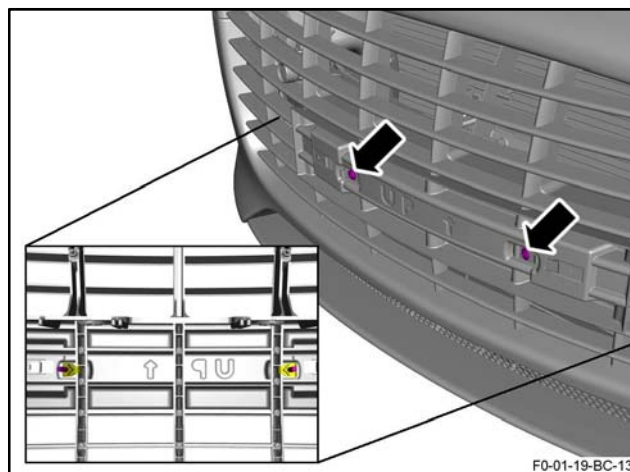

Figure 44
8. Install and tighten the two screws that attach the front licence plate to the plinth for the front licence plate (refer to Figure 44).